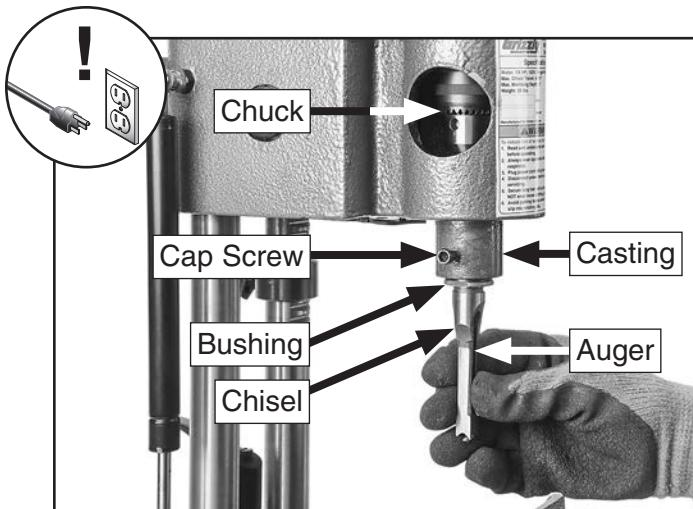

Figure 19. Inserting chisel into bushing.
4. Remove chuck access covers (see **Figure 19**).
5. Install bushing (see **Figure 19**) with M6-1 x 15 cap screw. Cap screw must pass through casting and stop flush with inner wall of bushing.
6. Slide auger into chisel, then insert chisel and auger into bushing (see **Figure 19**).
7. Push chisel up until it stops at bushing (see **Figure 19**), then allow it to slide back down approximately $\frac{1}{64}$ " to prevent binding. Tighten cap screw just enough to hold chisel in place. Do not overtighten.